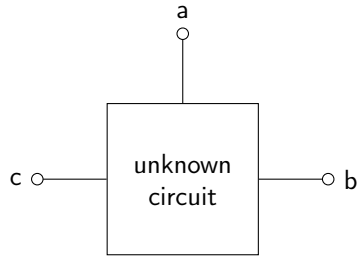

Figure 3.2: Mystery box circuit configuration.
1. Your instructor gives you a mystery box that has three nodes, as shown in figure 3.2. The following questions will help you to determine the process for figuring out what is inside the mystery box, which you will do in this lab. You measure the resistance between nodes a and b to be $500\ \Omega$, between b and c to be $600\ \Omega$, and between a and c to be $800\ \Omega$.
2. Your instructor gives you a second mystery box that has three nodes, as shown in figure 3.2. You measure the resistance between nodes a and b to be $1.2\ \text{k}\Omega$, between b and c to be $1.2\ \text{k}\Omega$, and between a and c to be $1.8\ \text{k}\Omega$.
Two mystery boxes have been built with three terminals, as shown in figure 3.2. Use these to complete the following two circuits.